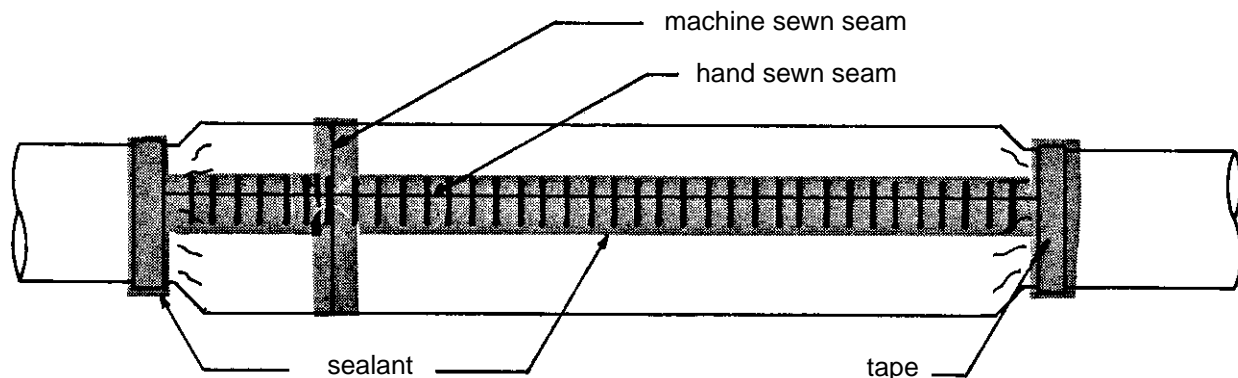

FIGURE 4 - APPLICATION OF SEALANT
- Step 2. Using a suitable spatula, apply a thin, uniform coat of RTV 732 sealant to the tape and all seams of the cover approximately as shown in Figure 4.